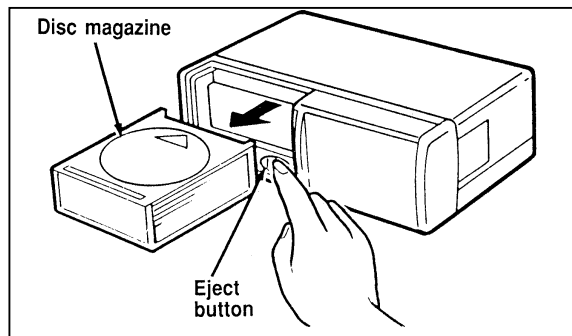

Figure 2
2. Push EJECT button to eject the disc “magazine” (which holds 10 discs) (Figure 2).